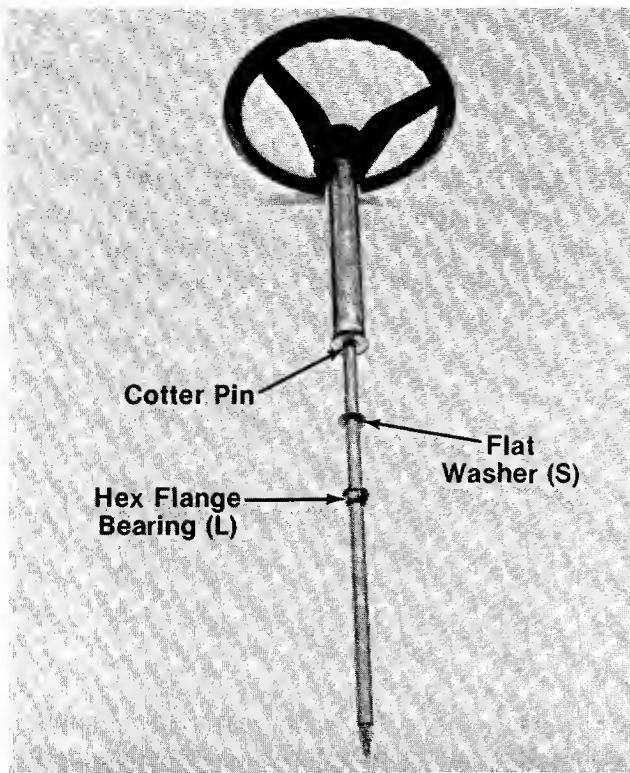

FIGURE 6.
7. Slip **flat washer (S)** ( $1\frac{1}{4}$ " diameter) on the **steering shaft** immediately below the cotter pin. Place one plastic **hex flange bearing (L)**, flat side up, below the washer. See figure 6.